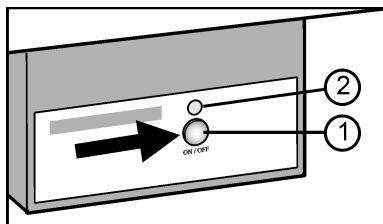

Fig. 47
- Press On/Off button Fig. 47 (1) so that the LED Fig. 47 (2) lights up.